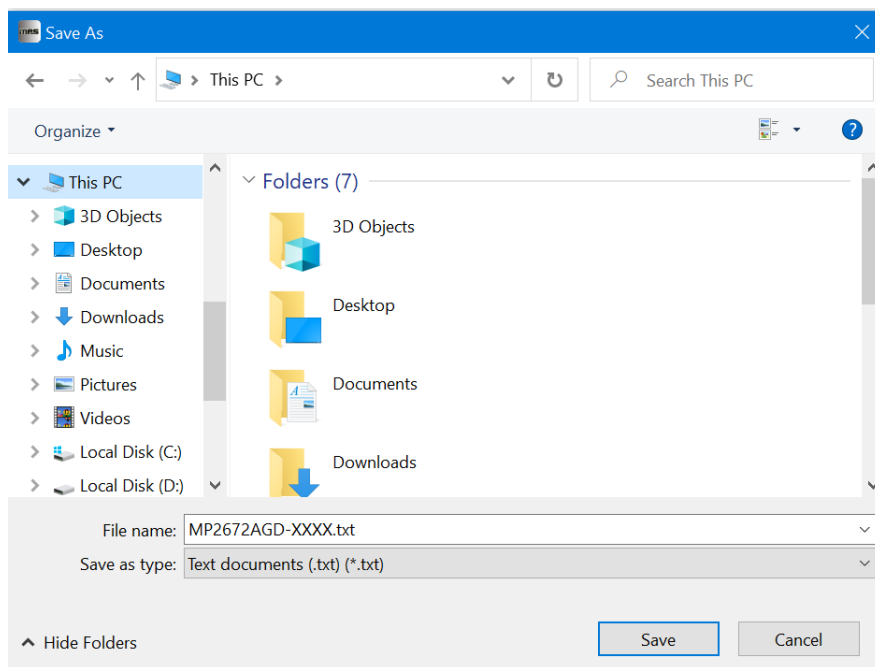

Figure 11: Saving Configurations
7. Find a location for the exported file, then click “Save.” The configurations will save as a .txt file (see Figure 11).